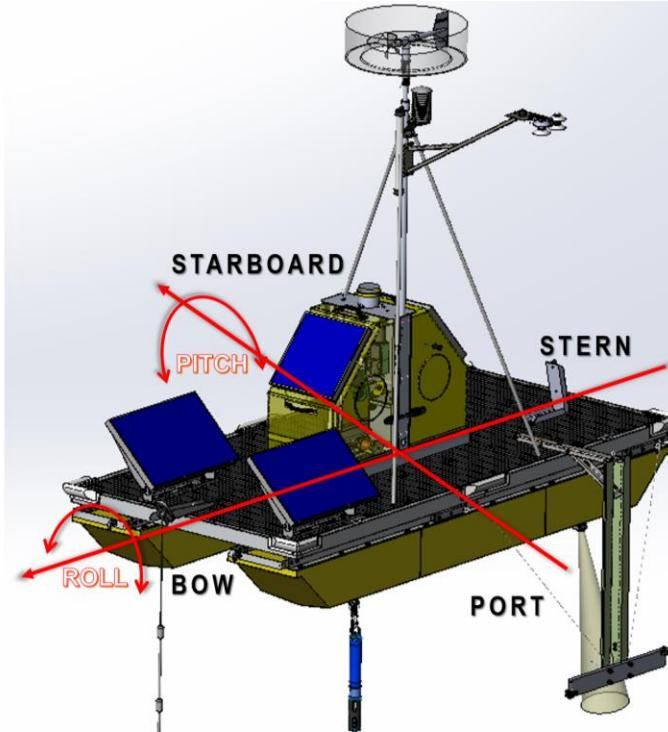

Figure 86. AIS Buoy Pitch and Roll Diagram
- i. Take a digital level and measure the PITCH by placing it on the top of the floating deck along the centerline (at the bow, to measure from bow to stern). Positive PITCH is bow above stern. Capture this measurement in the boat next to the AIS Buoy (your movement can influence the measurement). See *Figure 86* for reference.
- ii. Take a digital compass and measure the ROLL from port to starboard. Positive ROLL is port above starboard. See *Figure 86* for reference.